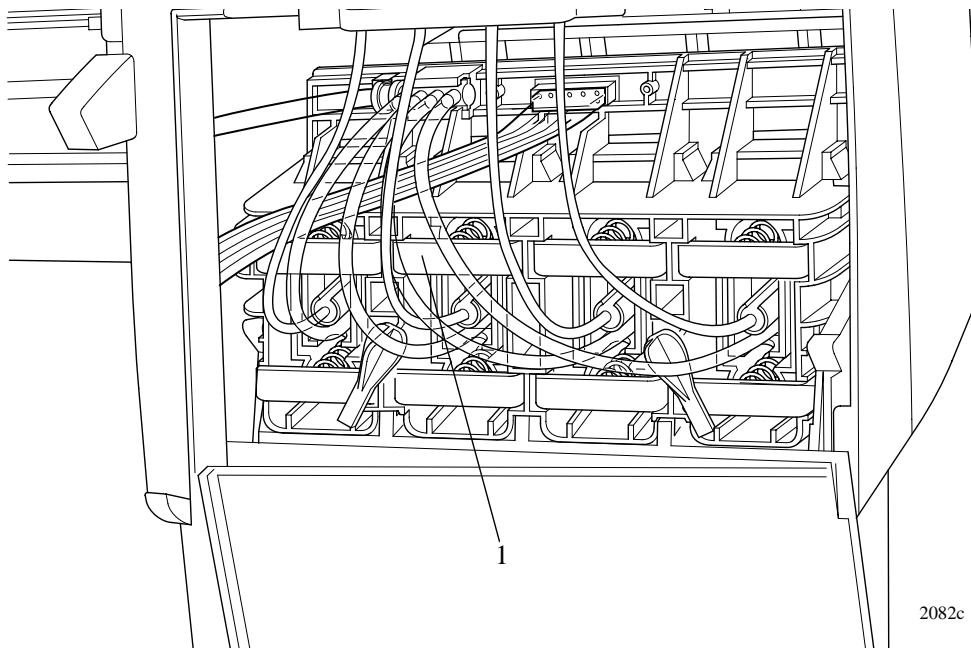

Figure 59: Ink Cartridge Tube Connector (pulled back)
10. Slide the ink cartridge tube connector assembly (item 1) towards you (refer to Figure 59).